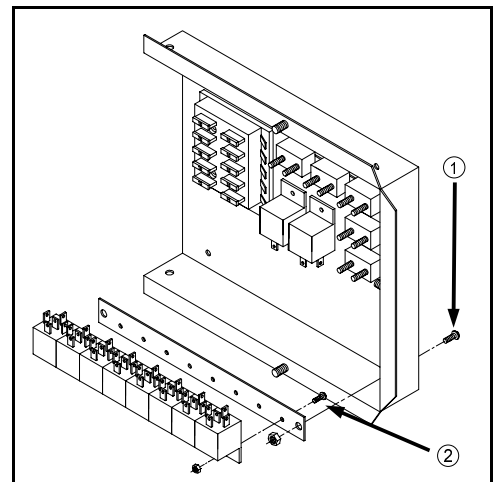

FIG 8.52
If it is necessary to remove a relay, tag all the wires going to that relay. Remove the two bolts that mount the relay panel to the electrical panel (fig. 8.52, item 1). Then unbolt the individual relay by removing the relay bolt (fig. 8.52, item 2) that holds it to the relay panel.